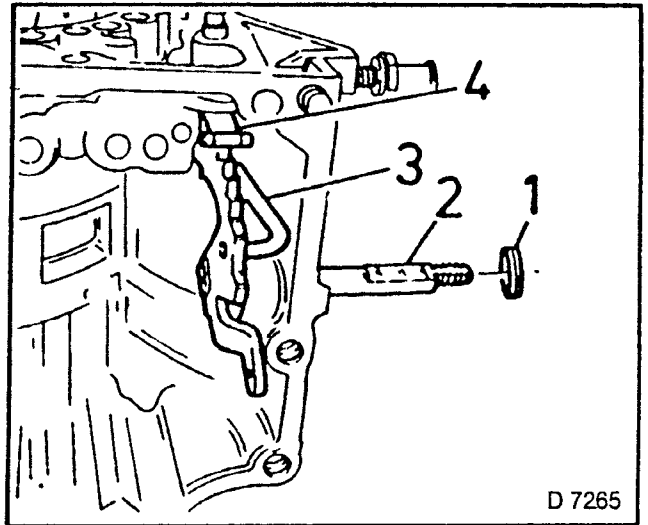

Fig. 511
1. Guide actuation rod for parking pawl (1) through opening in main housing to parking pawl assembly. Angular end is guided through between ratchet (Fig. 511, Item 2) and housing wall.
2. Insert the shouldered end of the actuation rod between the cam plate (2) and pawl (3).